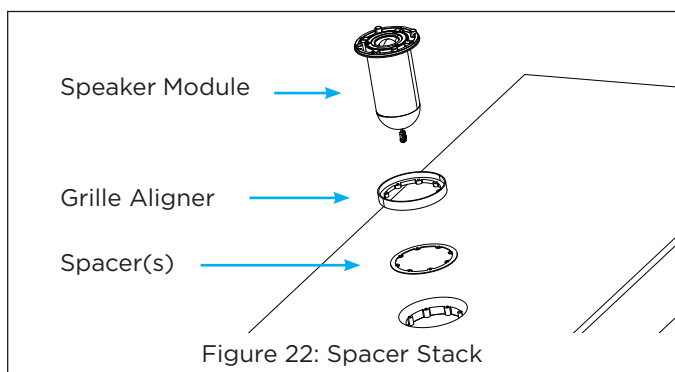

Figure 22: Spacer Stack
10. Stack the appropriate spacers and shims into the opening, add the speaker module, and grille. For Solid Surface installations using a micro trim grille, be sure to add the grille aligner behind the speaker module before adding to the opening (see Figure 22).